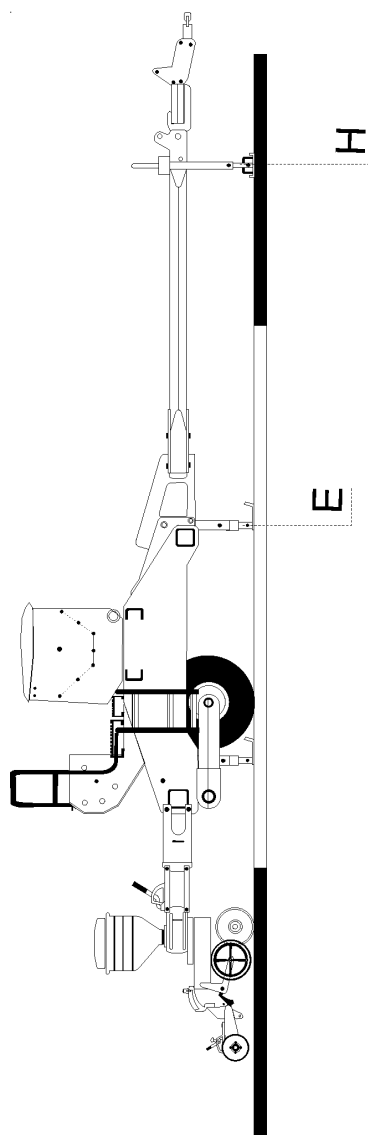

FIGURA 02
- 4** - MONTE OS SUPORTES (D) OBSERVANDO AS MEDIDAS (B) (TABELA 01)
- 5** - APOIE O CABEÇALHO SOBRE O MACACO (``H´´) REMOVA O TENSOR (F) E APROXIME OS CABEÇALHOS (FIGURA 02) RECOLOQUE OS TENSORES NO SUPORTE (D)